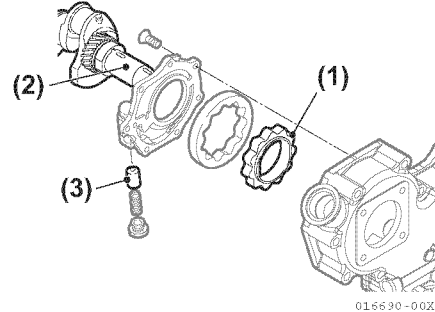
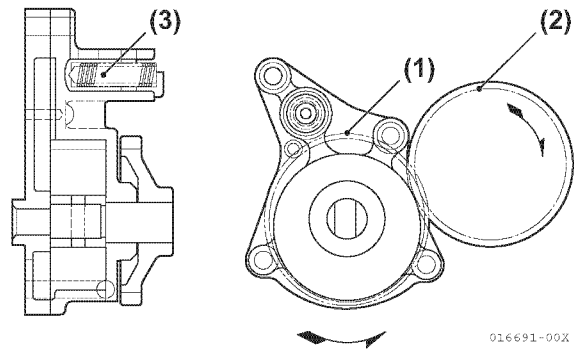

Figure 8-13
Figure 8-14
The trochoid type lubricating oil pump is mounted in the gear case, and the inner rotor (**Figure 8-13, (1)**) is driven by the crankshaft (**Figure 8-13, (2)**).
The lubricating oil pump assembly with drive gear (**Figure 8-14, (1)**) is driven by the crank gear (**Figure 8-14, (2)**). The lubricating oil pump is fitted with an oil pressure control valve (**Figure 8-13, (3)**), (**Figure 8-14, (3)**).